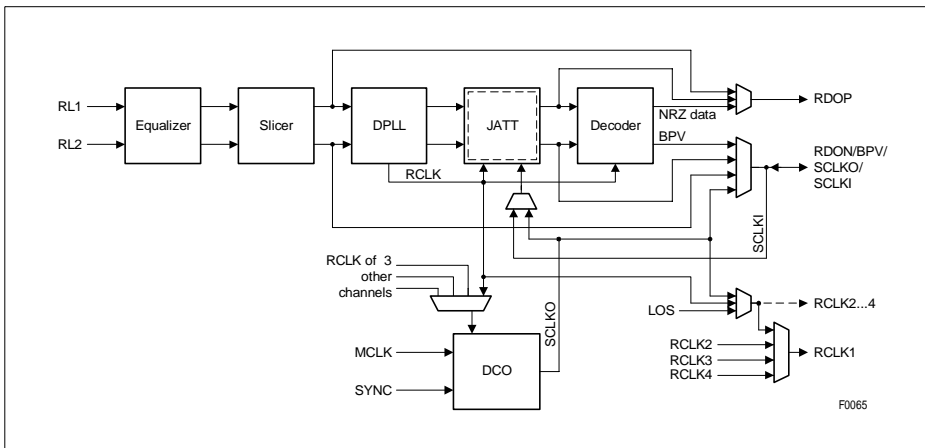
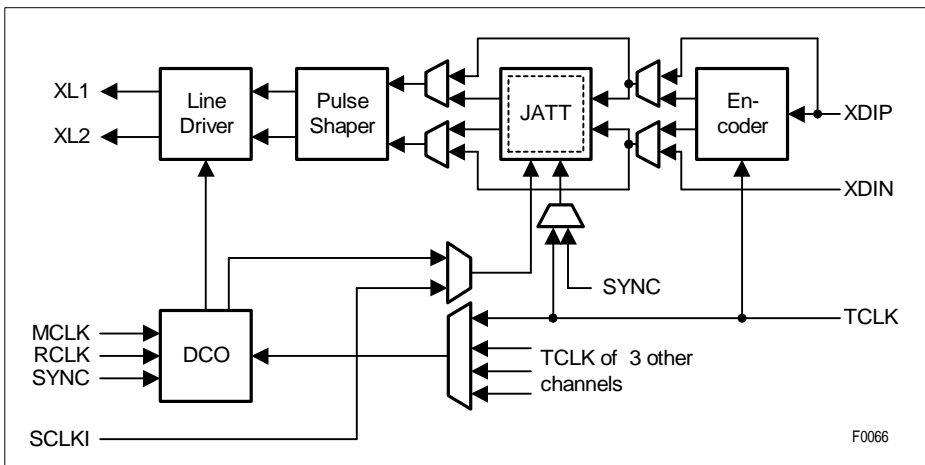

Figure 10 Receive Clock System
Figure 14 Transmit Clock System
1) The DCO can be used either in receive or transmit direction (see Figure 10 and Figure 14)